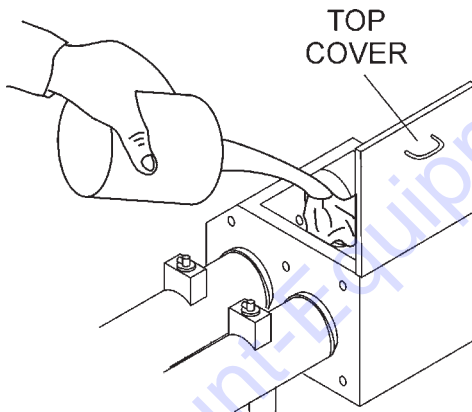

Figure 14. Filling the Lubrication Box
- Check the oil level in the **lubrication box**. If low, fill with up to 3 gallons of SAE #30 motor oil (Figure 14). The oil level must be checked daily. The lubrication box should be serviced as described in the maintenance section.